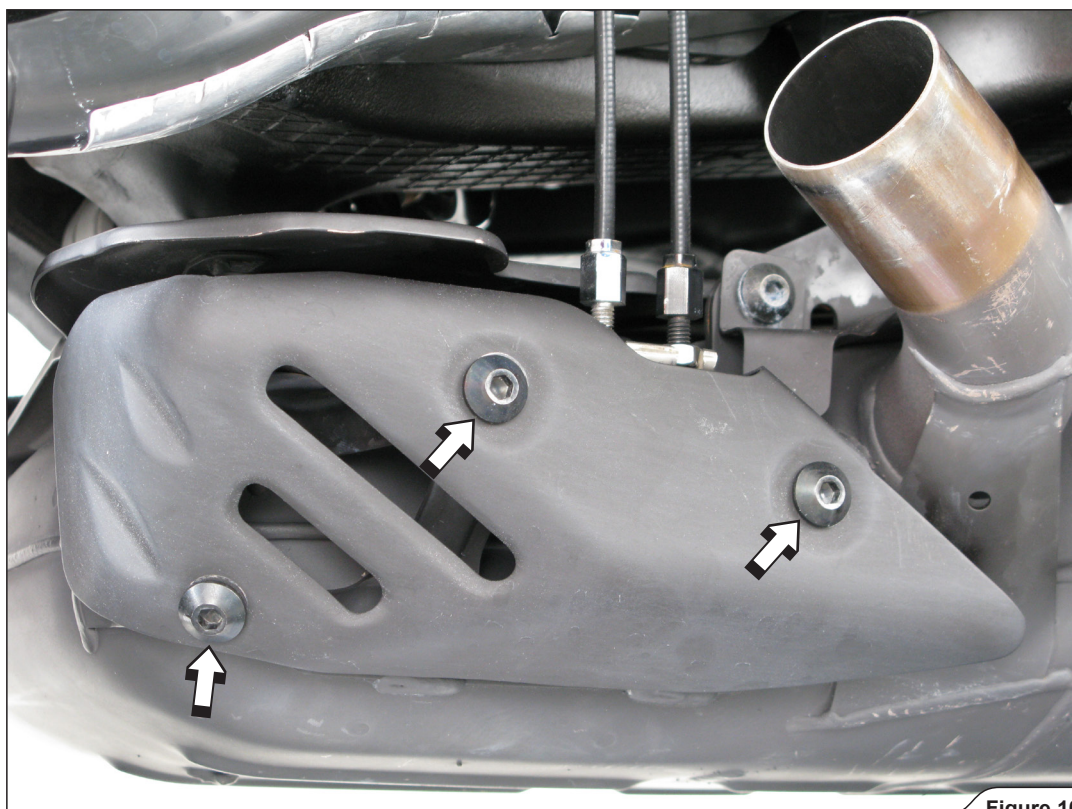

Figure 10
9. For OPEN SLIP-ON only: unscrew the marked bolts and remove the exhaust valve cover (Figure 10).